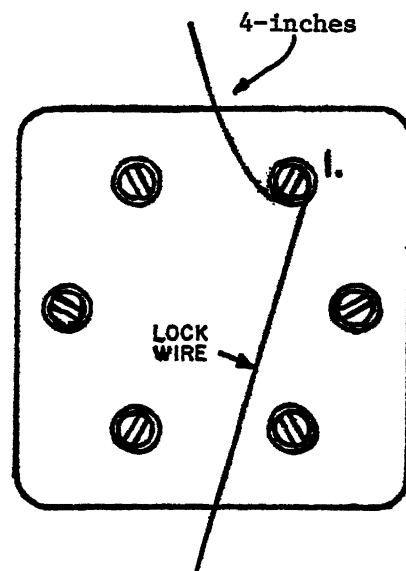

FIGURE 15
* Leave 4 inches of wire on the left side of the screwhead, bend this up toward the top of the plate. See figure 15.
- b. Bend the long strand down tight against the screwhead, keeping metal-to-metal contact. See figure 15.